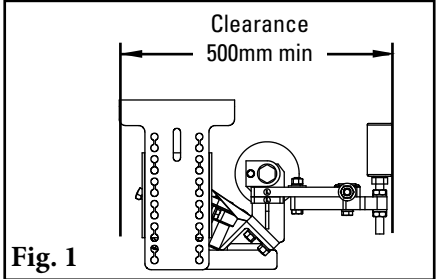

Fig. 1
- Identify an opening of at least 500mm if possible to avoid interference with sensor rollers during installation (Fig. 1).
- If belt is still mistracking too far to one side, bring that sensor roller in toward the centre. Make adjustments of 6mm at a time (Fig. 1). Do not pinch the belt between the rollers; rollers overall should be 38mm wider than the belt (Fig. 2).